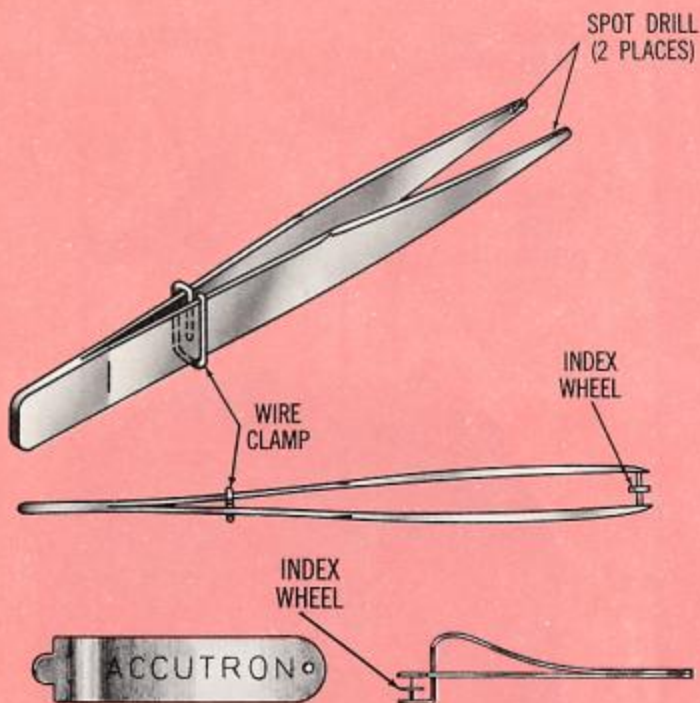

Fig. 32
1. Spot drill the insides of the tweezer tips as shown in the upper section of Fig. 32.
**Note:** Authorized Material Distributors can supply, at nominal cost, a special Index Wheel Holder illustrated in lower section of Fig. 32.